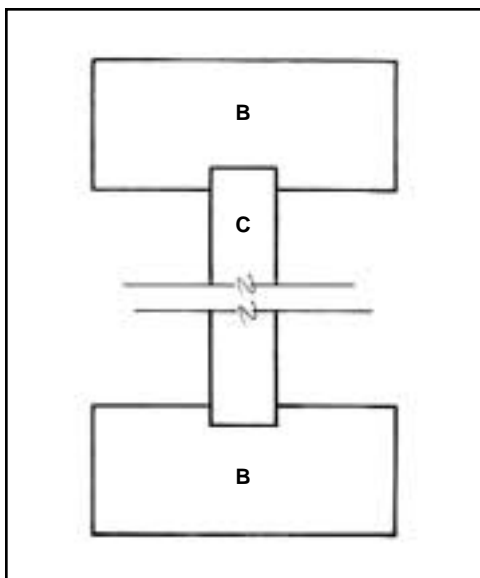

Figure 5
5. Glue and finish nail (D) to (B and C). See Figures 5 and 6 and the Construction Diagram.